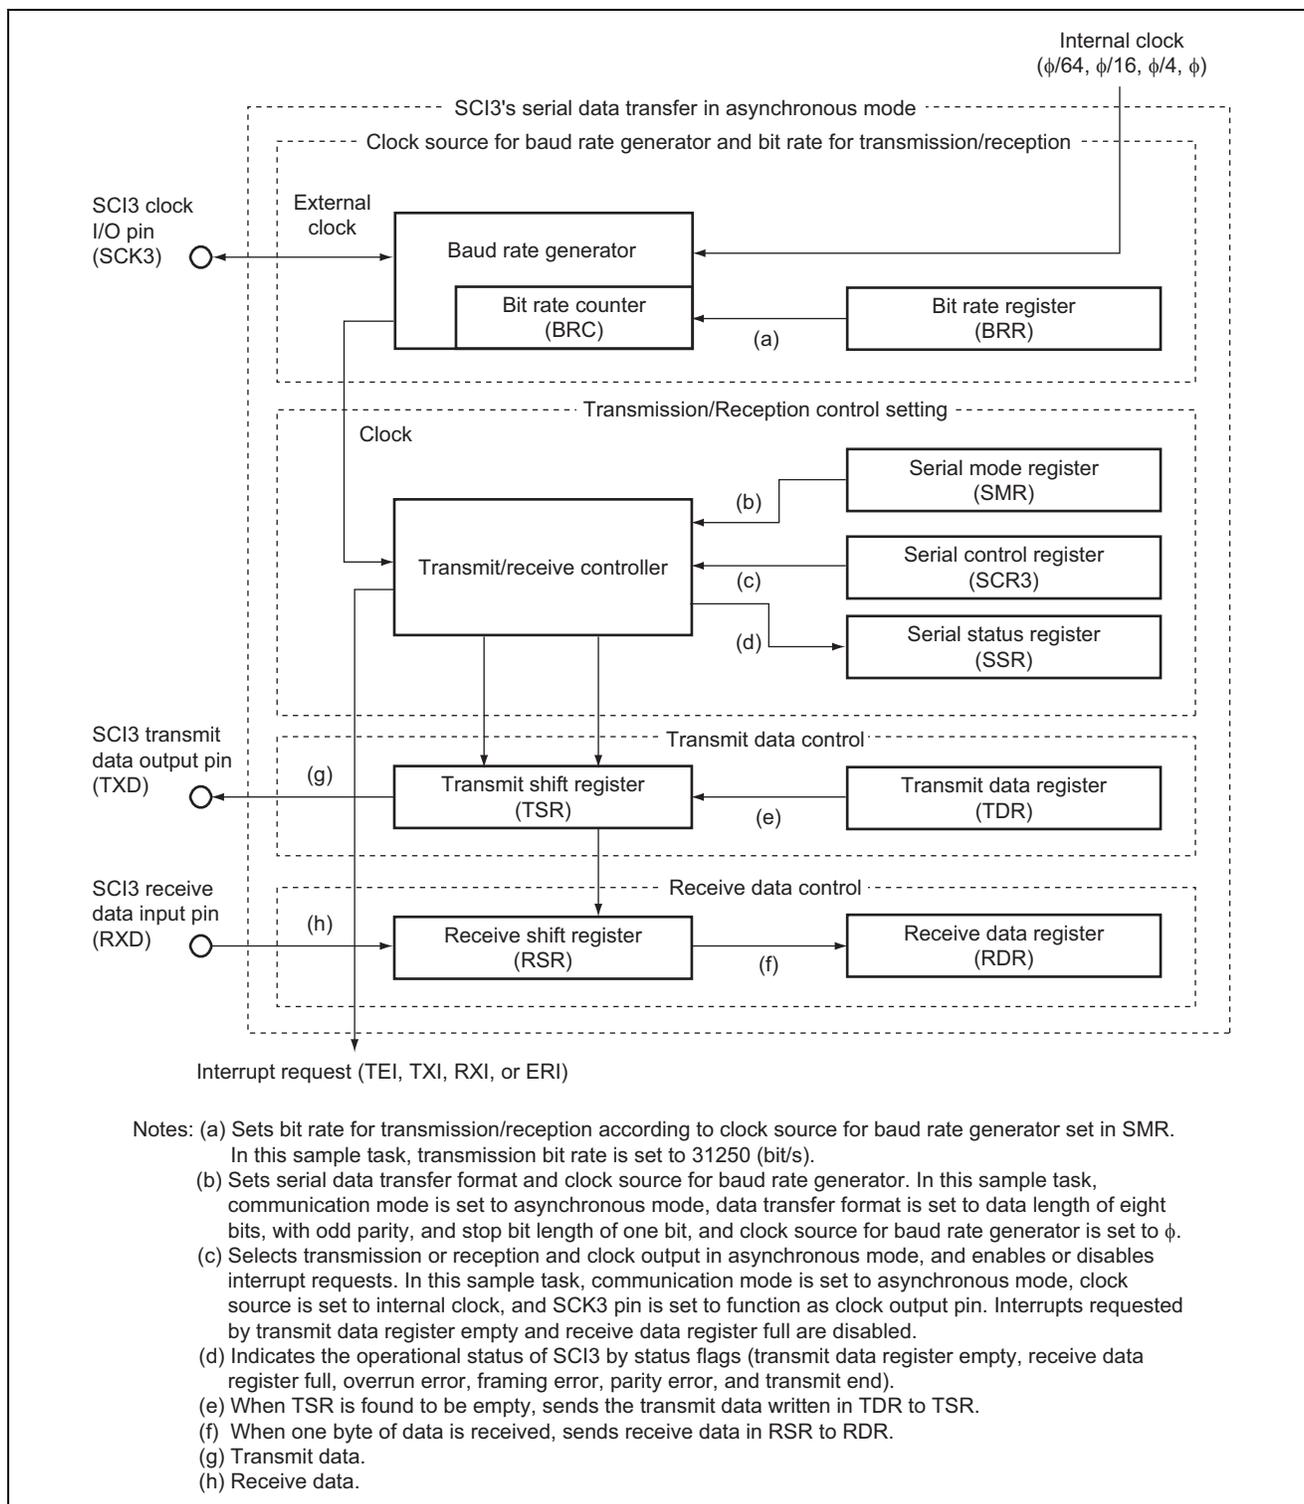

Figure 2 Serial Data Transmission in Asynchronous Mode
1. In this sample task, serial data is transmitted in asynchronous mode via the serial communication interface (SCI). Figure 2 is a block diagram of serial data transmission in asynchronous mode. The elements of the block diagram are described below.